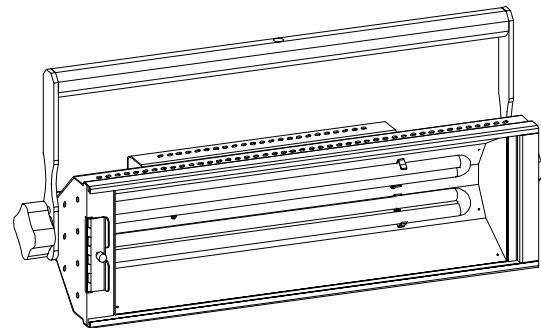

Figure 2
2. Screw palm handle into place (Fig. 2).